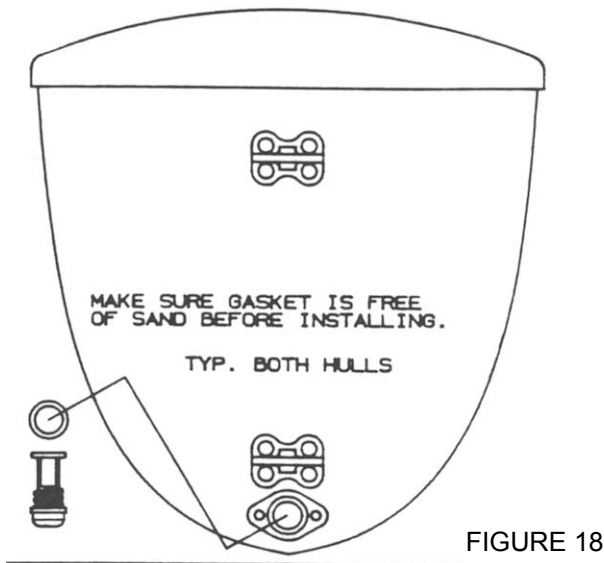

FIGURE 18
12.1 Drain plugs are the most often forgotten item during rigging, but among the most important. Even championship sailors forget to put their drain plugs in once in a while, but you can't go very far with them out. **BE SURE TO CHECK YOUR DRAIN PLUGS BEFORE LEAVING SHORE.** Make certain the gaskets are in place and free of sand, or other debris, which can prevent sealing. The drain plugs are located below the lower gudgeon. Do not overtighten the drain plugs. This may distort the rubber gaskets and water will leak into the hulls. (FIGURE 18)